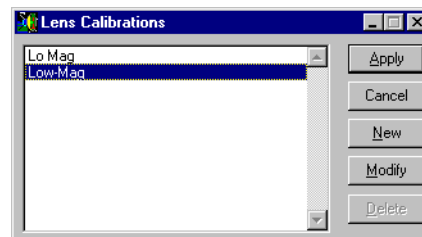

Figure 6-15 Lens Calibration
1. Select **Setup/Calibration** from the menu, the *Lens Calibration* dialog box is displayed; refer to Figure 6-15.